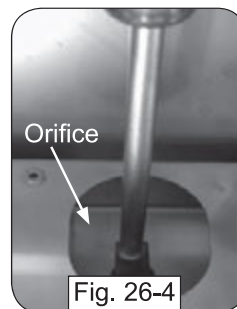

Fig. 26-4
5. Use a  $\frac{3}{8}$ " hex nut driver to remove the exposed orifice (Fig. 26-4) and replace it with the correct orifice for the new gas. (See Table 1 at the beginning of this document for orifice sizes.)